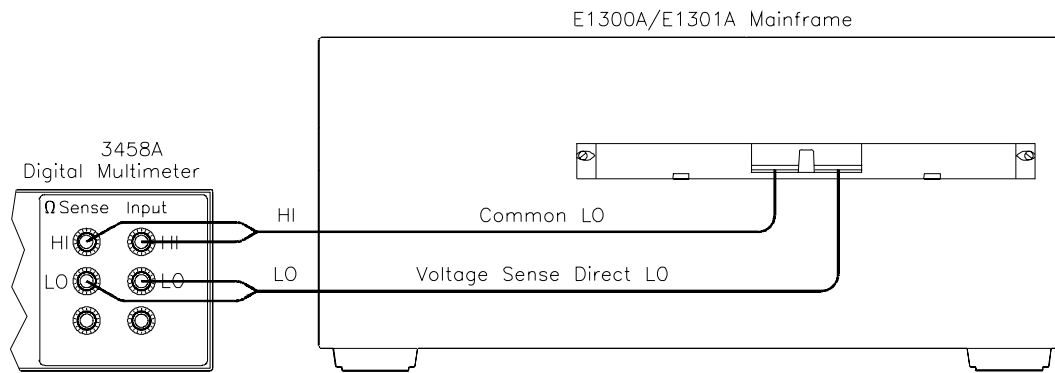

Figure 2-4. Ch 0-7 and 90 LO Measurement Connections
- Connect DMM leads as shown in Figure 2-4